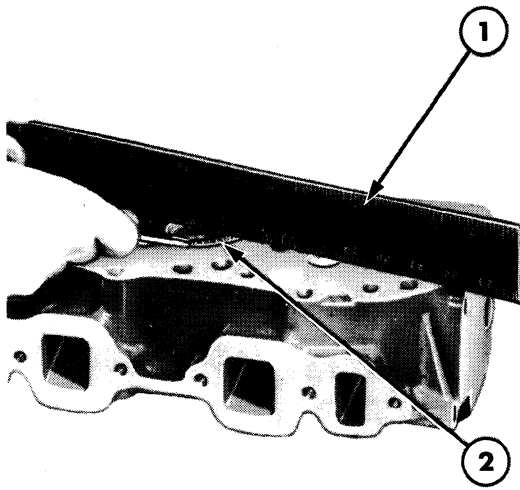

Figure 14
2. With a straight edge and feeler gauge, check the flatness of the cylinder head, Figure 14. Specifications for flatness are 0.006 in (0.15 mm) maximum overall, or 0.003 in (0.76 mm) in any six inches (152.40 mm).